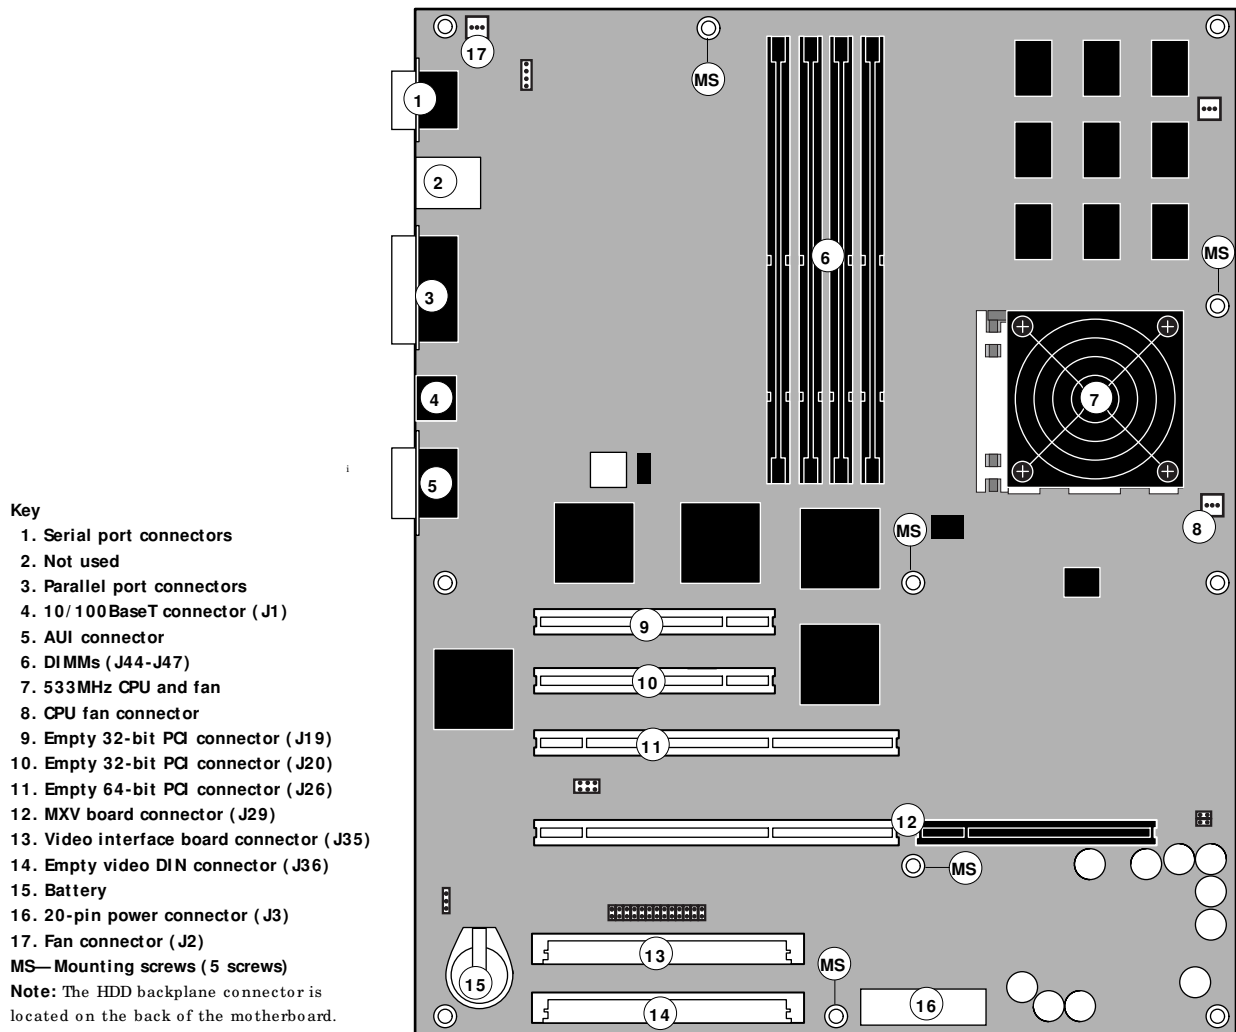

FIGURE 4-18 Diagram of the Fiery ZX motherboard
3. Remove the five mounting screws on the motherboard (see Figure 4-18 on page 4-23 for locations).
6. **Insert the five motherboard mounting screws to attach the motherboard to the tray but do not tighten them completely (see Figure 4-18 on page 4-23 for screw locations).**